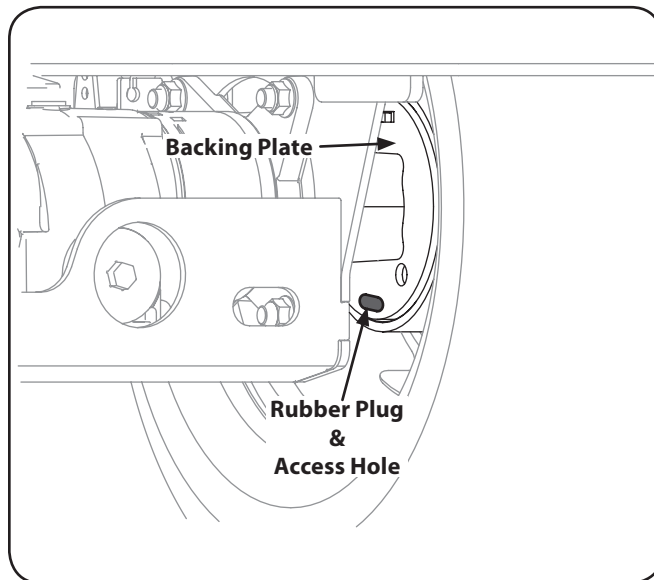

Figure 6-8
1. There is an access hole on the lower inside of the backing plate inside the rear tires. Locate this hole and remove the rubber plug to access the adjusting star on the brake shoes. See Figure 6-8.